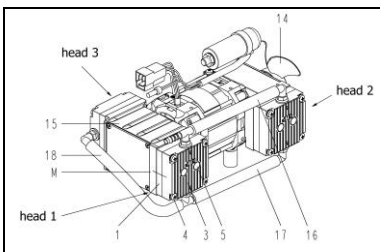
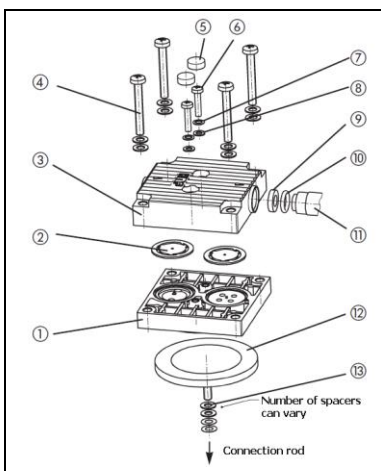

Fig. 9: Pump N816.6 KPE
Fig. 10: Pump head (exploded drawing, symbolic)
** according to Fig. 10
1. Remove the pneumatic connection (Fig. 9/18) between pump head 1 and pump head 3 from the hose connector of pump head 3.
1. Turn the fan (Fig. 9/14) to bring one diaphragm (Fig. 10/12) to top dead centre.
2. Lift the edge of the diaphragm (12) and, gripping it on opposite sides, unscrew it by turning anti-clockwise.
3. Take the diaphragm spacers (13) off the threaded portion of the diaphragm and retain them.
5. Put the diaphragm spacers (13) on the thread of the new diaphragm.
6. Turn the fan (Fig. 9/14) until the connecting rod (connecting part between motor shaft and diaphragm) is at top dead centre.
7. Screw the new diaphragm (Fig. 10/12), complete with diaphragm spacers (13), into the connecting rod (clockwise) and tighten it by hand.